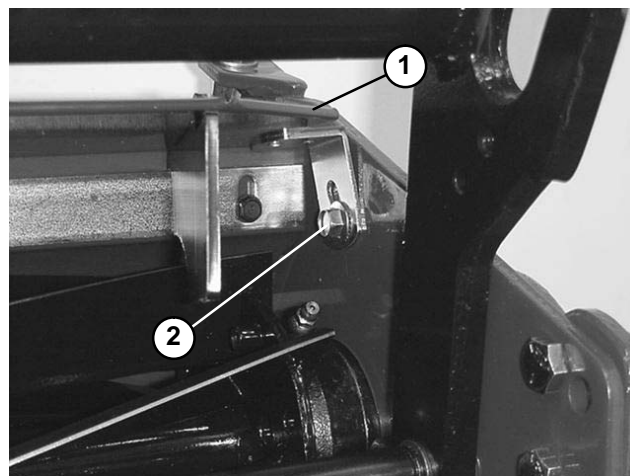

Figure 20
2. Loosen capscrews and nuts securing shield to each side plate. Move shield to desired angle and tighten fasteners (Fig. 20).